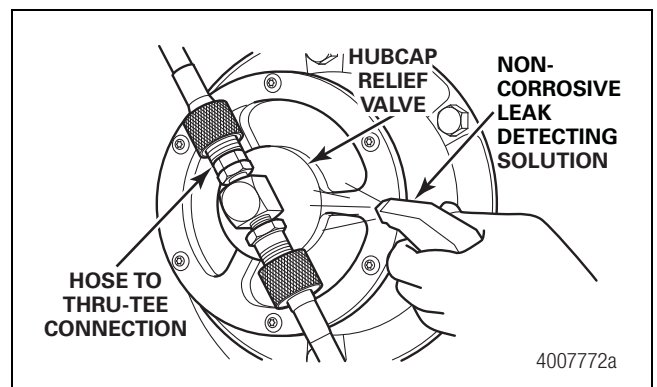

Figure 3.24
1. Spray a non-corrosive leak detecting solution to check the hose to the thru-tee connection and the hubcap relief valve for leaks. Figure 3.24.